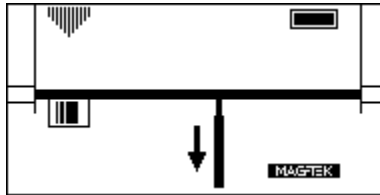

Figure 5-4. CET Extraction
6. Pull the tool until the card can be removed as indicated in Figure 5-4. If tool does not capture the card edge, the tool may be under instead of above the card. Reinsert the tool and rotate the handle 90° *upward*.